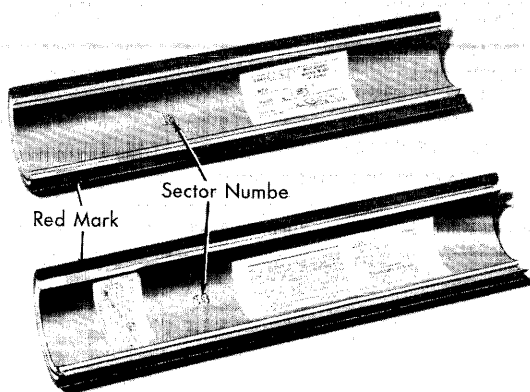

FIGURE 77. SPLIT-PLATEN SECTORS
1. The two-piece split platen shown in Figure 77.